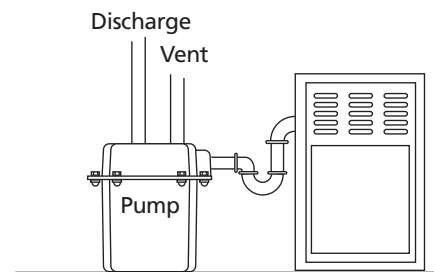

Figure 8 – Typical installation to remove air conditioner condensate or dehumidifier water
1. Install inlet pipe in opening as shown. Use RTV sealants or PTFE pipe thread sealant tape to seal threads. See Figures 8, 9, and 10, page 4 and 5, for typical installation arrangements.